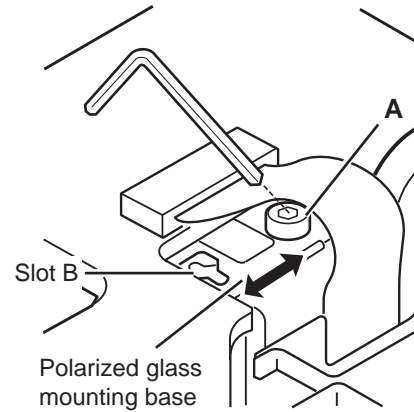

Fig. 3-11
2. Loosen a screw **A** (Fig.3-11/3-12) on the polarized glass mounting base which you intend to adjust.
3. Adjust a slots **B** as shown in Fig.3-11 to obtain the darkest brightness on the screen by turning a slot screwdriver.